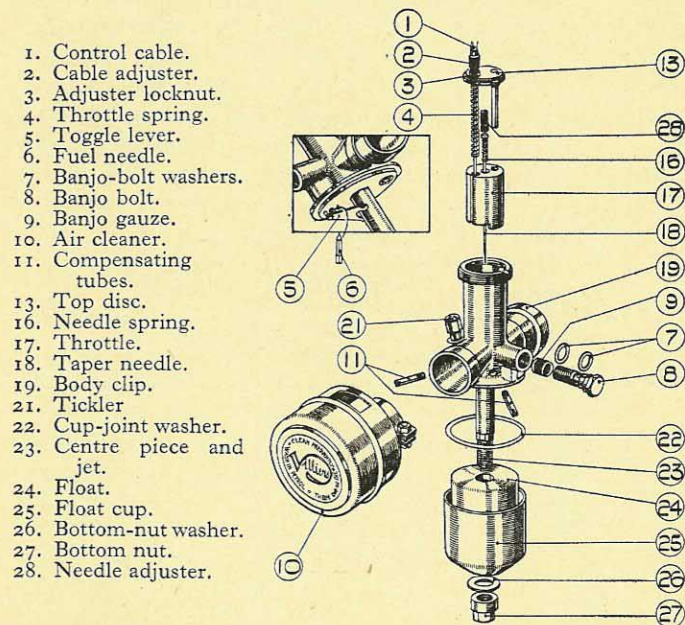

FIG. 78.—EXPLODED DRAWING OF TYPE 3/4 CARBURETTER, MARK 10D UNIT.
The Villiers type 3/4 carburetter, Figs. 78 and 79, is fitted to the Mark 10D engine. These numbers will be found stamped on the inlet stub immediately behind the clip (No. 19). The setting of the carburetter is done when testing the machine, but the standard setting of the No. 3 taper needle when assembled is $2\frac{1}{8}\frac{3}{8}$ in. out from end of the throttle. After approximately the first 500 miles, when the engine has been run in, it will probably be necessary to weaken the mixture by lowering the taper needle. This is done by screwing in the adjuster to be found at the top, in the centre of throttle, see Fig. 78 (28).
The function of the carburetter is to supply a mixture of fuel and air in correct proportions under all running conditions. In the Villiers carburetter, the float chamber (25, Fig. 78) surrounds the jet centre piece (23), and in it an annular float (24) rises as the fuel enters the chamber until the correct level is obtained. The fork lever (5), which rests on the top of the float, lifts the fuel needle (6), which has a conical end and shuts off the fuel supply by closing the hole in the bush.
The slide (17, Fig. 78) operated by the throttle cable controls the air supply and is fitted with taper needle (18) which extends below the slide, through the centre piece and into the needle jet. When the throttle slide closes the air supply, the largest diameter of the needle nearly closes the fuel outlet, but when
To remove the centrepiece and fuel needle, first unscrew the bottom nut (27, Fig. 78) underneath the float-chamber cup. Next remove the fibre washer (26), the cup (25) with float inside and, if loose, the fibre washer (22) between cup